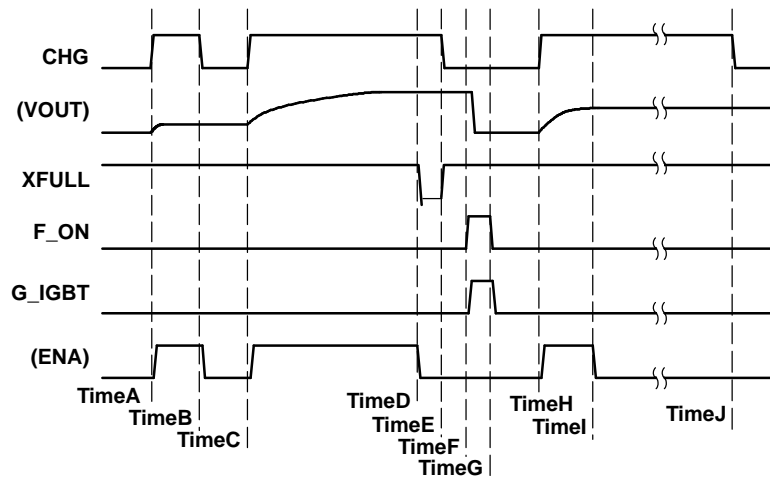

Figure 4. Whole Operation Sequence Chart
The only way to *start* charging is to input $\text{CHG}\uparrow$ (see time A/C/H in Figure 4). Each time $\text{CHG}\uparrow$ is reached, the TPS65552A starts charging.
1. Forced *stop* by inputting $\text{CHG} = \text{L}$ from the controller (see time B in Figure 4).
2. Automatic *stop* by detecting full charge. VOUT reaches the target value (see TimeD in Figure 4).
3. Protected *stop* by over V_{DS} detection (see TimeI in Figure 4).
The device starts charging at *timeH*, and over V_{DS} protection occurs at TimeI (see Figure 4). At timeI, XFULL stays H, and the controller detects over V_{DS} protection when the timer ends at timeJ. In this event, the controller inputs $\text{CHG} = \text{L}$ to terminate the operation.
The IGBT driver provided by the TPS65552A is a simple buffer in the logical table. Table 3 shows the function (see Figure 4).
To avoid the stress of power dissipation, the TPS65552A provides an overvoltage monitor function at the SW terminal. If this protection occurs, the overvoltage status is latched (see Figure 4 and its descriptions).